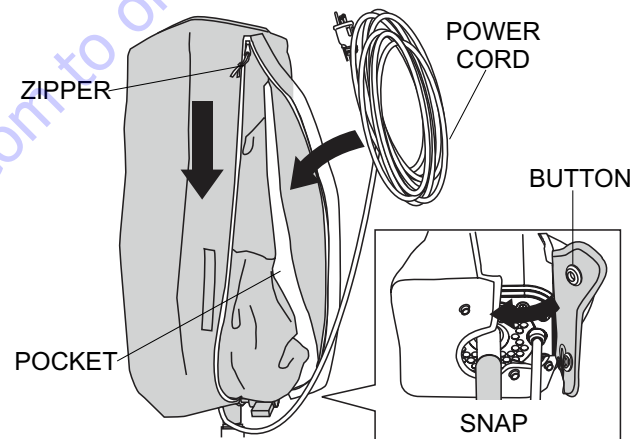

Figure 28. Zipping the Protective Cover
4. Store the power cable inside the pocket of the protective cover (Figure 28). Zip up the protective cover and snap the buttons on the bottom of the protective cover.